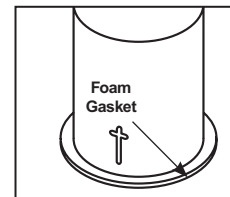

Figure 3
Step 3. Locate Air-Loc gasket kit envelope supplied in fixture carton. Place foam gasket on the top surface of the metal ring of can (Fig 3).